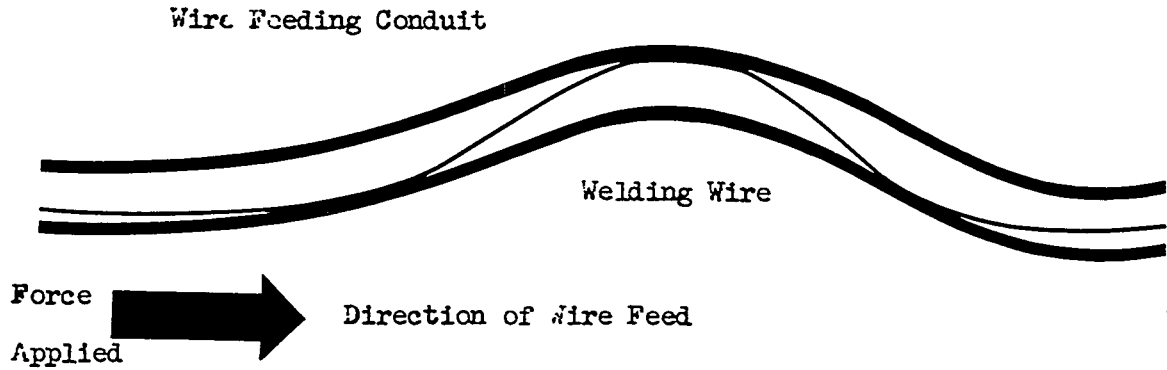
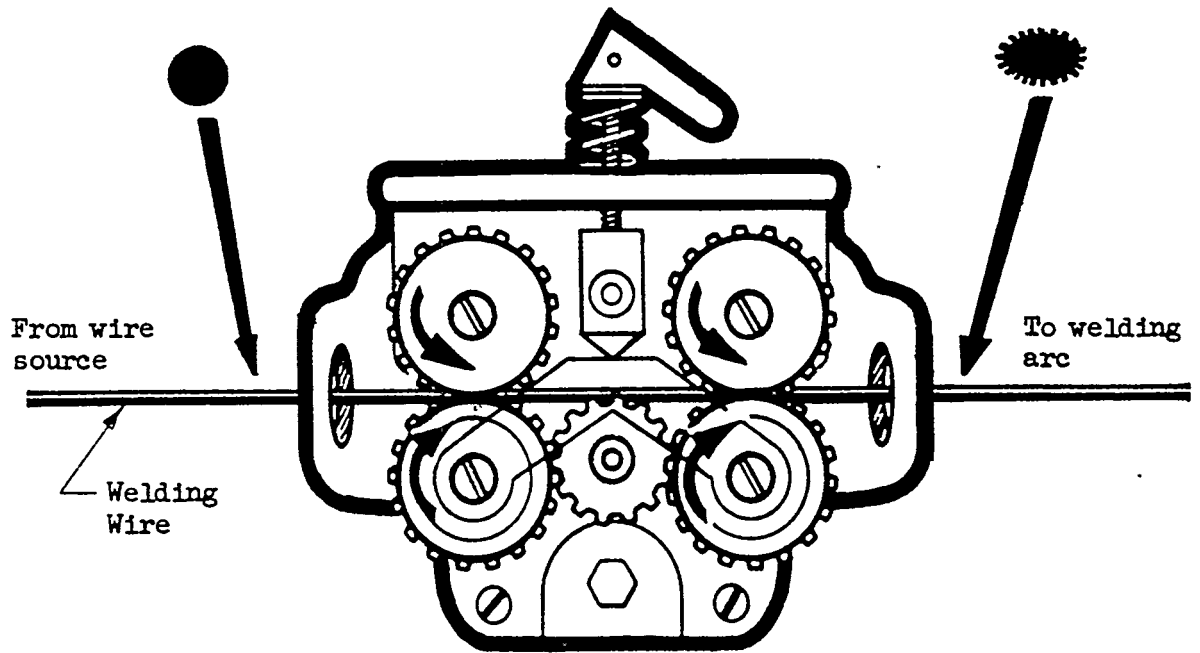

FIGURE 1
FIGURE 3
- (1) Push Only Wire Feed Systems - Figure 1. These units usually consist of a DC motor coupled to a gear box for RPM reduction with one or more sets of drive rolls driven by the output shaft of the gear box, In practically all cases, the motor torque is transmitted to the wire by pinching the wire between sets of drive rolls. Usually one of the drive rolls is spring loaded on the wire to allow some adjustment of the pressure of the rolls on the wire. Deformation of the wire from a circular to an elliptical cross section can occur (Figure 3). By numbers of units in service, this is by far the most popular type of unit.